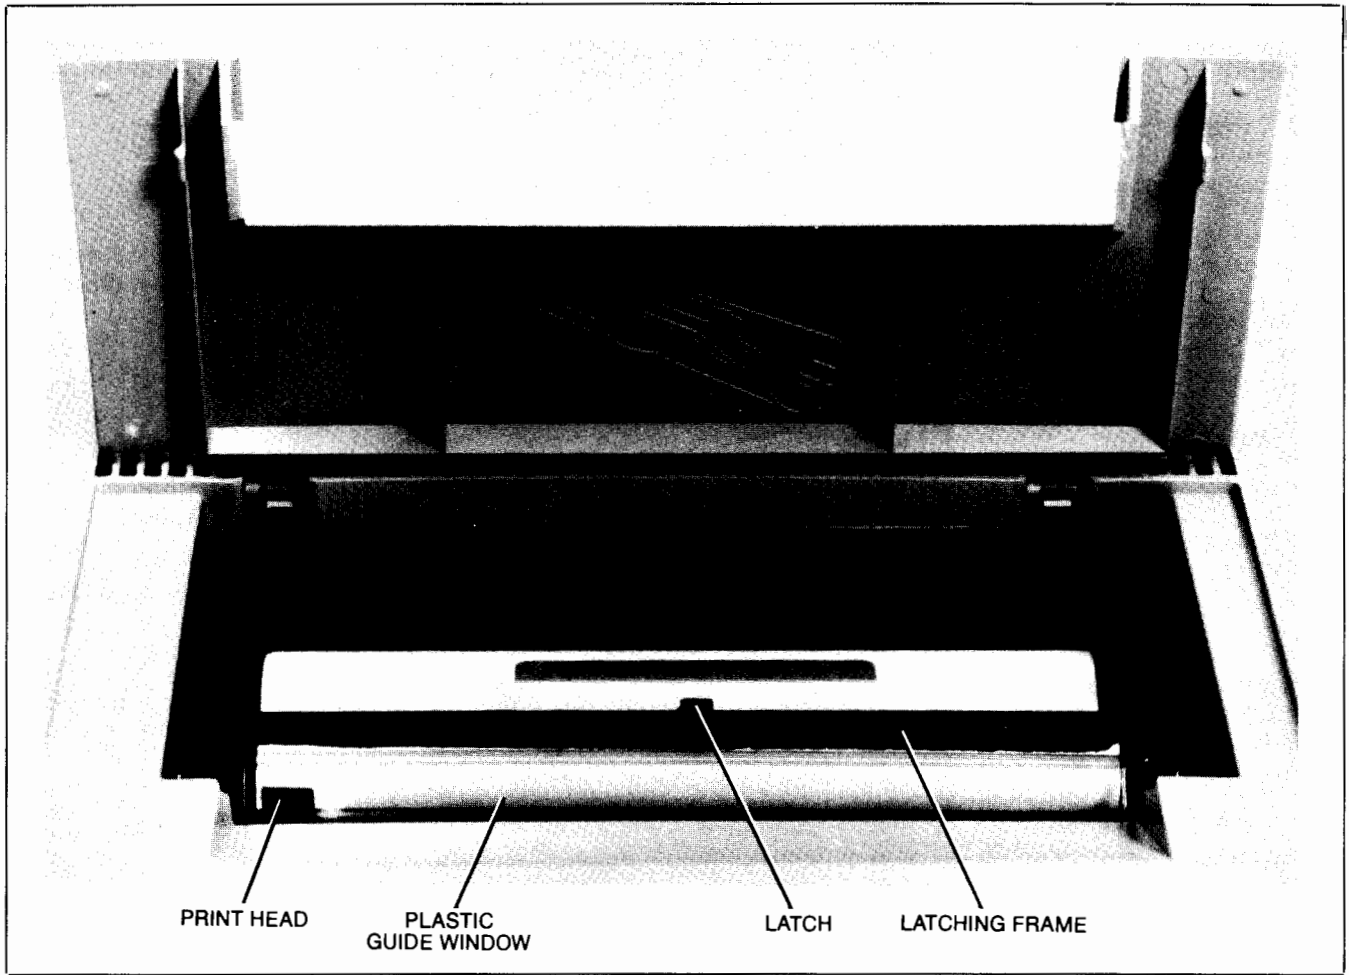

Figure 6-4. Integral Printer Mechanism
2. The metal latch (under the plastic printer lid) is not pressed down securely. See figure 6-4.